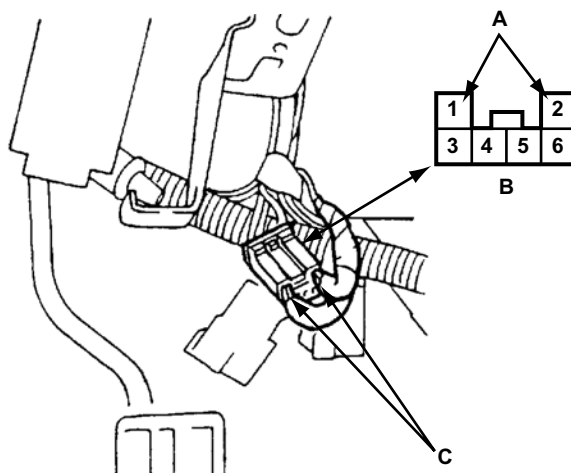

Figure 15-57 1998-2004 Impreza, 1995-1999 Legacy, and 1998-2004 Forester Airbag (SRS) Diagnosis Connector Location
- 1995–1999 Legacy/Outback, Sedan and Wagon (Figure 15-57 on page 225)
- 1998–2004 Impreza Coupe, Sedan and Wagon (Figure 15-57 on page 225)
- 1998–2004 Forester and Wagon (Figure 15-57 on page 225)
1. With the key on and the engine off, install either diagnostic terminal into pin 1 or the airbag (SRS) diagnostic connector. The connector is located in the left lower dash panel area (Figure 15-57).